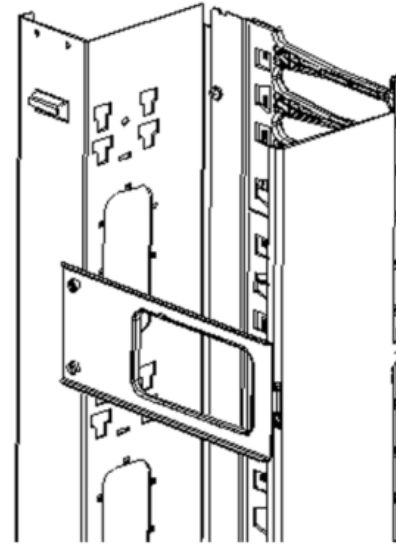

Figure 3
4. The door is installed by slipping the door onto the door support tabs with the tabs going through the corner slots on the door. Then the door is slid down on the tabs to lock it on the brackets. See figure 3.